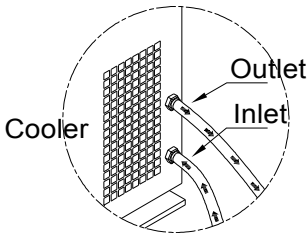

Figure. 12
- (1) After switch on the power, check to see if the POWER indicator on the panel lights?
- (2) If this cooler is equipped with High / Low refrigerant gauge, check to see if the low pressure is between 50 to 150 psi on the low pressure gauge.
- (3) Check if the oil or water pipes are correctly installed to the inlet and outlet on the cooler. (See Figure. 12)